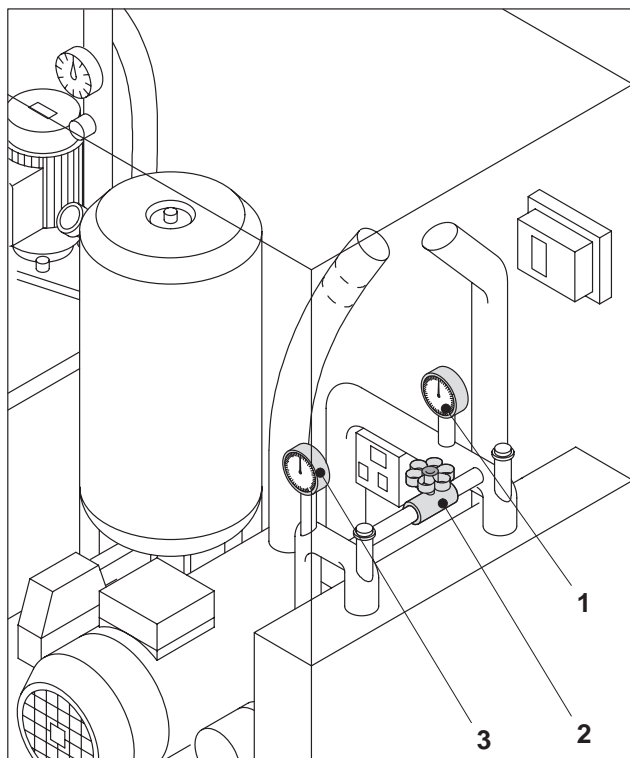

Fig. 27 By-pass valve with filling manometers
- 8 Close the water supply when both manometers (Fig. 27/1, 27/3) indicate a filling pressure of **1...1.5 bar**.
- 11 Adjust the operation pressure on the by-pass valve (Fig. 27/2) according to Tab. 3.
When the combination device is switched on the manometer (Fig. 27/3) indicates the operation pressure.